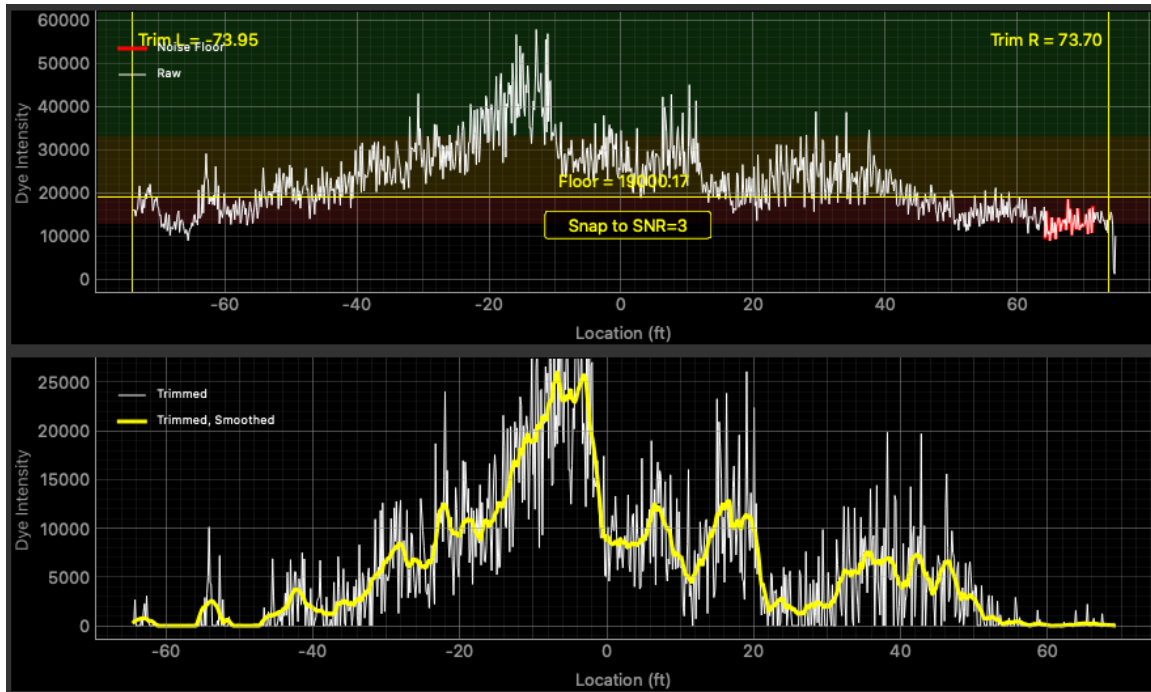

Figure 19: String Analysis - Quality of Pattern Data - Marginal Isolation
7.2.2.2 Marginal Isolation A pattern with marginal isolation from blank string can be difficult to spot (Figure 19). The segments of blank string are somewhat visible, but are not quite visibly differentiable from the pattern; in other words it is difficult to visibly determine the point at which the pattern begins on at least one side (left or right). The vertical variation in what *AccuPatt* has determined to be the blank segment is very perceptible. Note also that a majority of the pattern is in the yellow zone ($3 \leq SNR < 10$), meaning that there is mild uncertainty that the pattern is isolated from the blank string segment.
In the case of the provided example in Figure 19, it was determined that there actually was deposition across the entire extent of the string. This determination was made based on an observed $SNR_{base} \approx 7400$ for other passes in the same series. Thus, in this case, the noise isolation algorithm's suggested